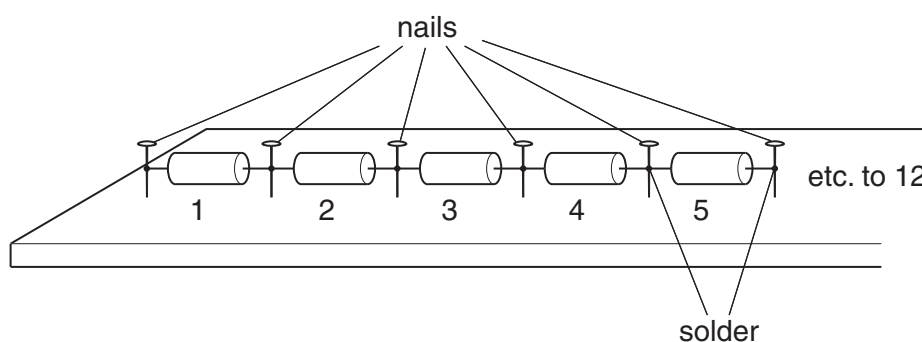

Fig. 1.1
- 1 Connect the twelve $22\ \Omega$ resistors in series onto the longer section of wood, as shown in Fig. 1.1.